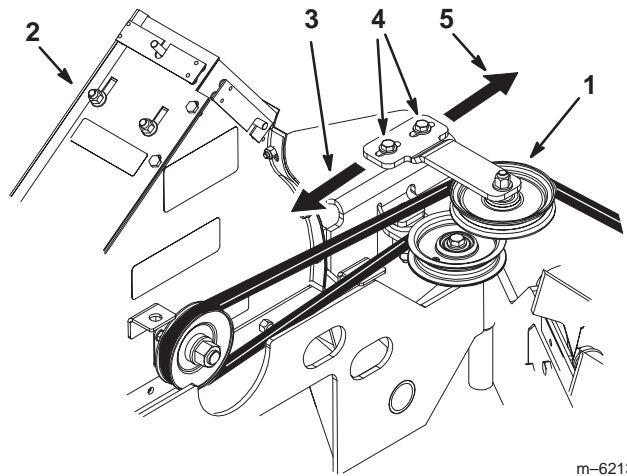

Figure 27
5. Loosen the two bolts that hold the fixed idler to the blower assembly (Fig. 27).
6. Adjust the fixed idler towards the rear to **lengthen the spring and increase belt tension** (Fig. 27).
7. Adjust the fixed idler towards the front to **shorten the spring and decrease belt tension** (Fig. 27).
8. Tighten the two bolts that hold the fixed idler to the blower assembly (Fig. 27).